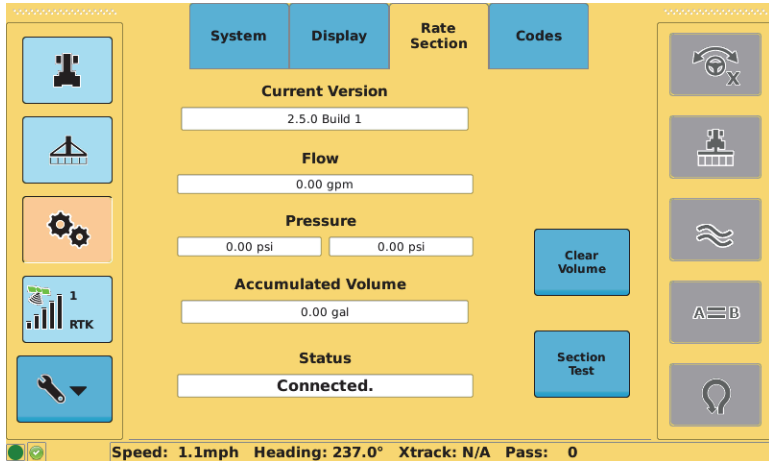

Figure 7-8: Rate Section (Tools) screen
Regardless of whether you have AC110 connected or not the Rate Section screen under Tools (Figure 7-8 below) is always available. You use this screen to:
1. Press the **Tools** screen button then press the **Rate Section** tab at the top of the screen. The Rate Section screen appears (see Figure 7-8).
1. Press the **Tools** screen button then press the **Rate Section** tab at the top of the screen. The Rate Section screen appears (see Figure 7-8 on the previous page).